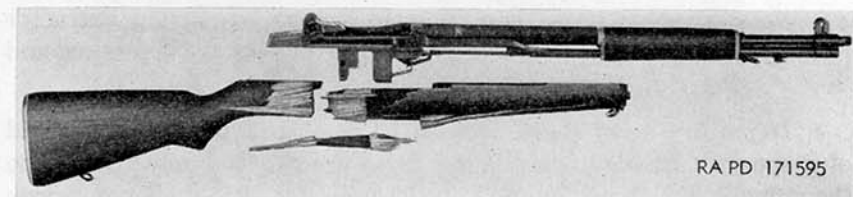

Figure 12. Cal..30 rifle M1 damaged by firing defective cartridge.
- (3) A loose gas cylinder will produce short recoil in a weapon, although it has little bearing on accuracy.
- (4) Looseness of the front hand guard is not detrimental to proper functioning of a rifle, but a warped front hand guard may hamper the movement of the operating rod.
- (5) A bulged or cracked receiver, produced by repeated hammering of the bolt at the rear of the bolt well or by malfunctions occurring in the launching of grenades, may damage other components of the rifle or injure personnel. Malfunctions in launching of grenades may occur through failure to use a gas cylinder lock screw with a valve, use of a screw with a defective valve, or use of a grenade launcher that does not open the valve. A malfunction of the grenade in launching may also damage the weapon.
- (6) An undetected seam in the rifle barrel can cause the barrel to split.
- (7) A broken firing pin or a weak or broken firing spring may fail to fire the cartridge when the trigger is squeezed.
- (8) A broken ejector assembly or a weak, broken, or fouled ejector spring may cause failure to eject.
b. *Defective Ammunition.* Figure 12 shows a cal..30 rifle M1 after an accident which was believed to be caused by a soft cartridge case head, as there was no evidence of bore obstruction or development of excessive chamber pressure. The malfunction resulted in a crack in the bolt extending from the extractor shank hole to the intersection of the lower lip and bolt face.